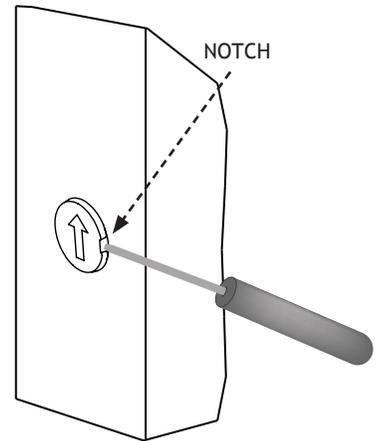

Figure 4: Removing the Transmitter Cap
1. Remove the transmitter cap by inserting a small screw driver into the notch in the cap and gently prying it off. See Figure 4.